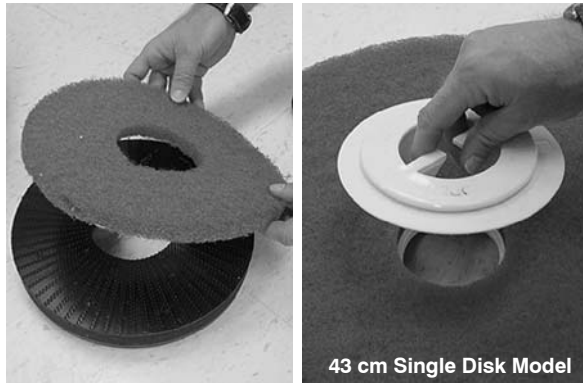

FIG. 8
3. Attach the pad to the pad driver before installing the driver. Make sure the pad is centered on the driver (Figure 8). Secure pad with centerlock (43 cm Single Disk Model only).